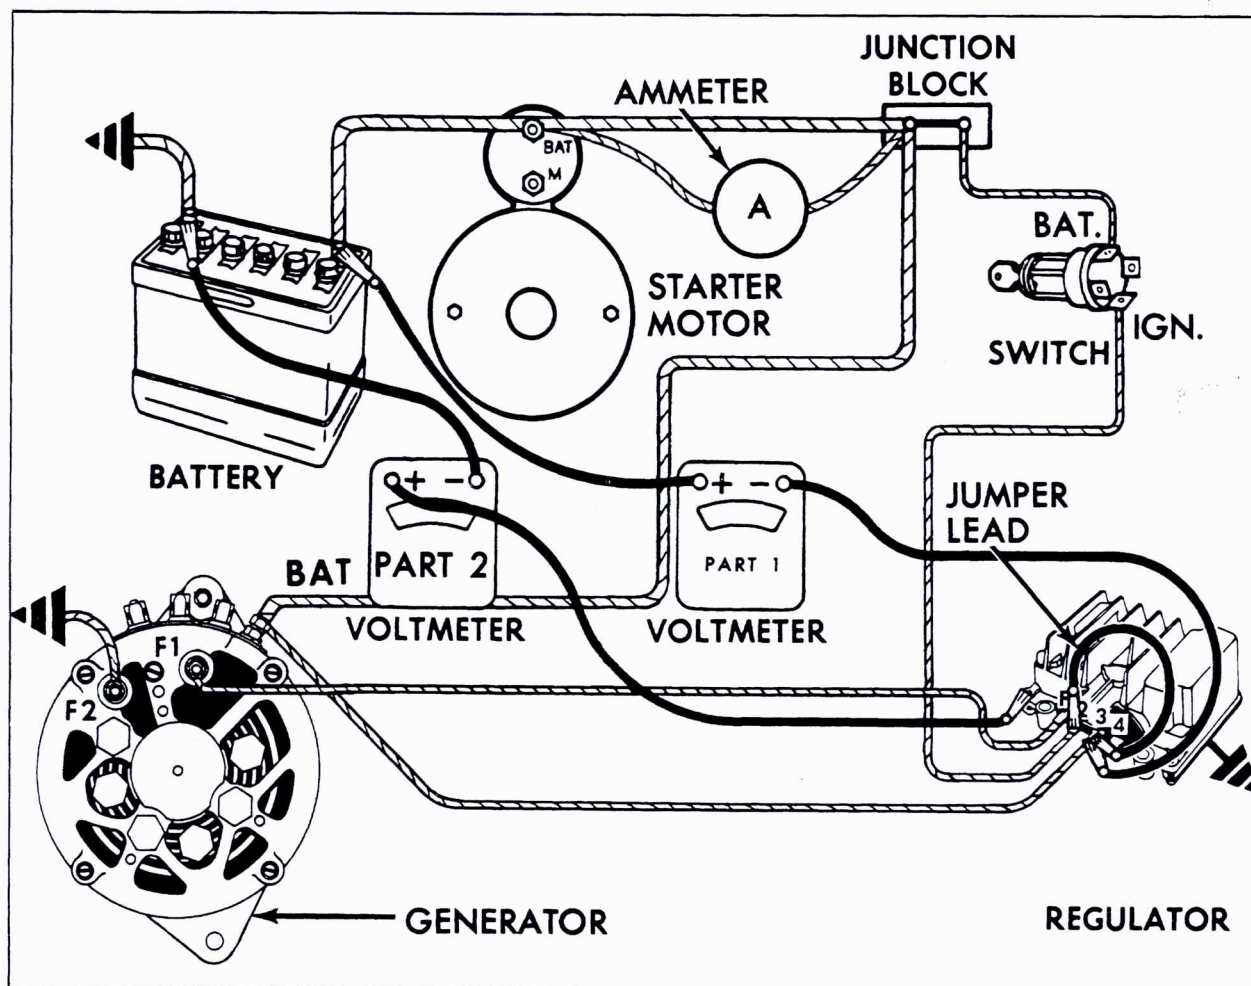

Fig. 6-36 Testing Wiring for High Resistance
9. Connect a jumper between the No. 3 and No. 2 terminals of the regulator, Fig. 6-36. Slide prods into the connector body to make connections. Do not leave jumper lead in this position longer than 5 minutes.
10. Connect voltmeter positive lead to battery positive post and voltmeter negative lead to regulator No. 3 terminal. Turn the ignition switch "on", Part 1 of Fig. 6-36. Read the voltage drop.
11. Connect voltmeter positive lead to regulator mounting bolt, and voltmeter negative lead to battery negative post with jumper lead in position, Part 2, Fig. 6-36. Record the voltage drop.